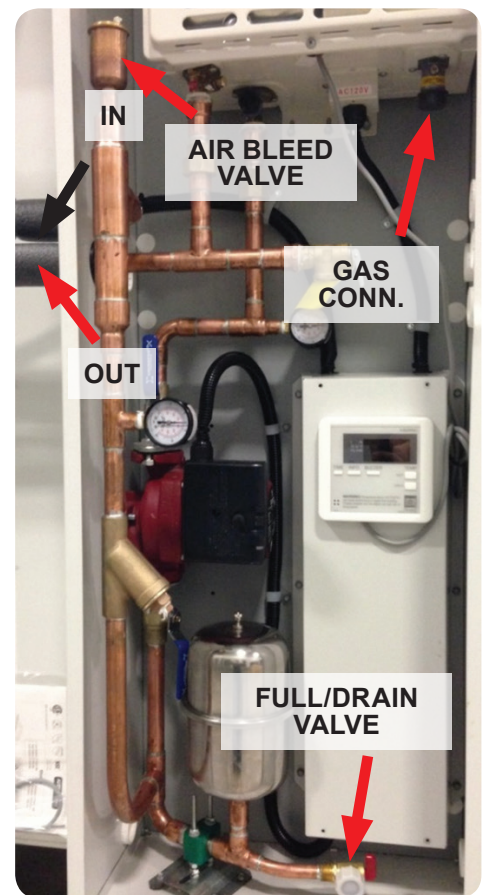

Figure 22. Boiler Package Pipe Stubs
- Boiler package pipe stubs are labeled respectively (**IN** and **OUT** – see Figure 22). Connect boiler package **OUT** to dehumidifier **IN**; connect boiler package **IN** to dehumidifier **OUT**.